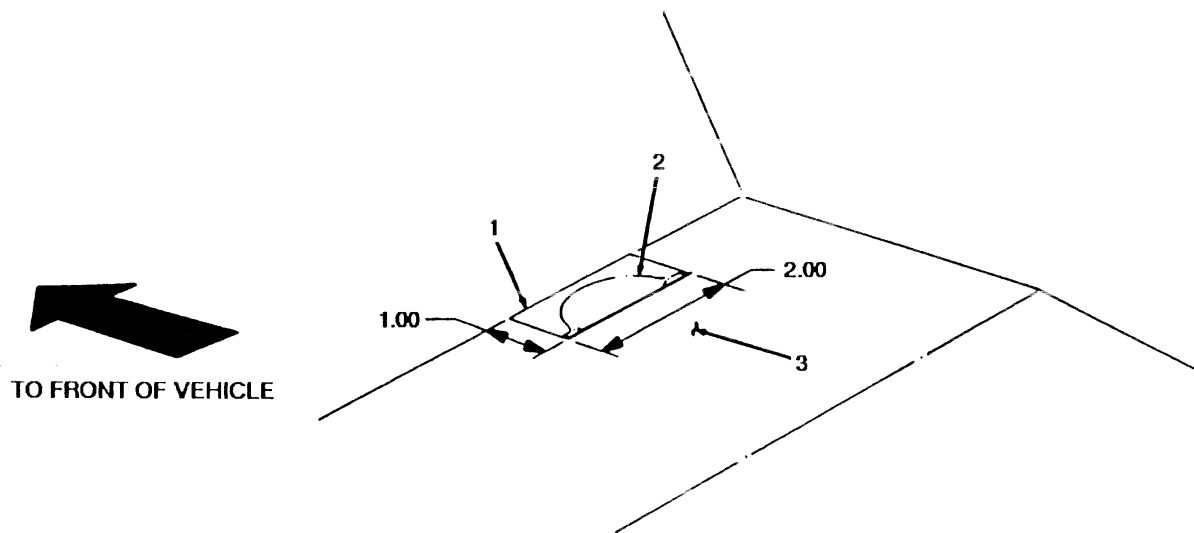

FIGURE 3-11
(1) Mark an outline (1) at drain hole (2) on floor panel (3). (see figure 3-11)
- (2) Cut and remove drain hole (2) material from floor panel (3), marked in step 1. Remove sharp edges and burrs from floor panel (3). (see figure 3-11)